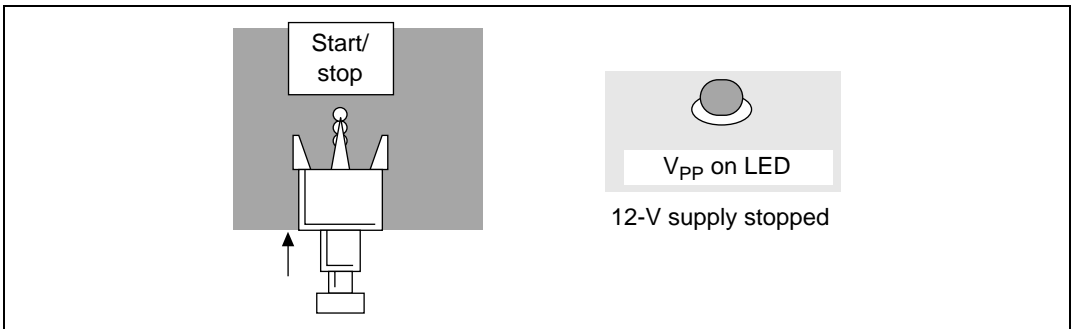

Figure 4.10 End of Programming Operation
- Press the adapter board's transfer switch to stop the 12-V supply to the V_{pp} pin and mode pin. The V_{pp} ON LED (red) goes off (figure 4.10). The F-ZTAT microcomputer in the user machine starts the application program.